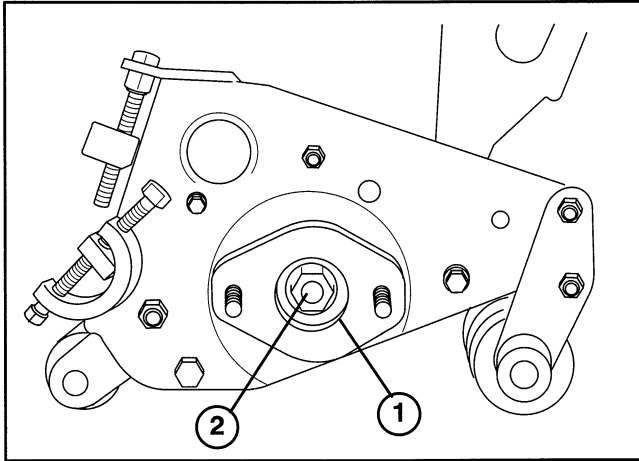

Figure 10
3. Remove the large bearing adjustment nut from the counterbalance end of the reel shaft and the special spline nut (Fig. 10) at the opposite end of the reel shaft.